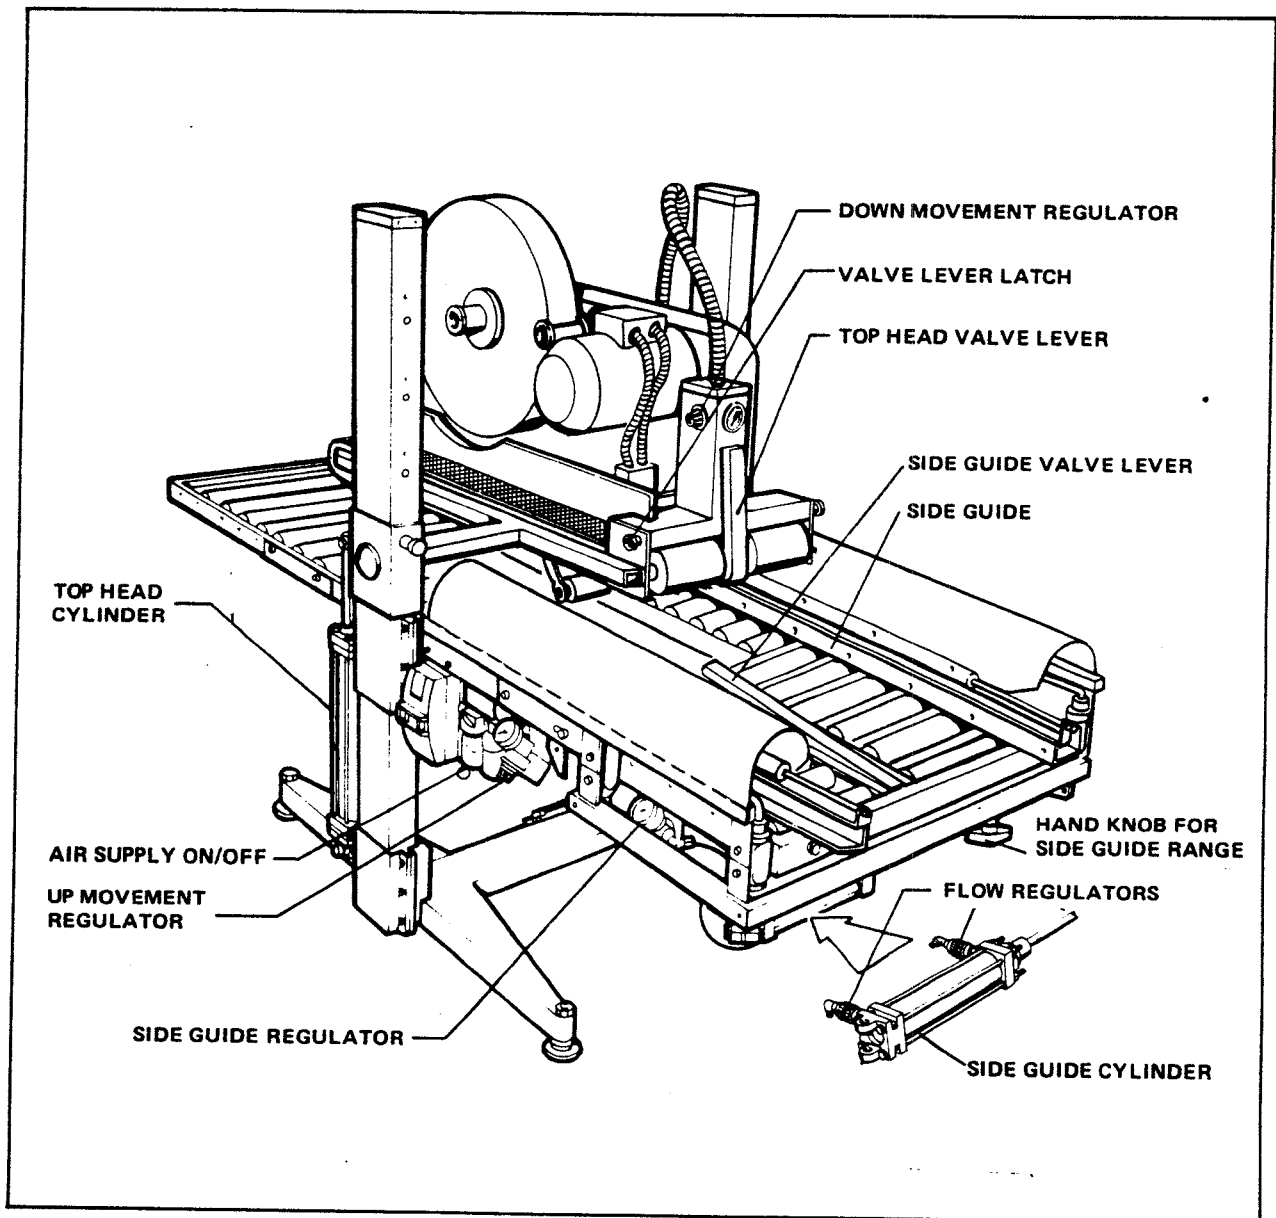

FIGURE 1 SET-UP INSTRUCTIONS - BOX SEALER COMPONENTS - LEFT FRONT VIEW
- 2) Air Cylinder Flow Regulator (Refer to Figure 1) - Flow regulators are located on the ports of the air cylinder that powers the side guides. These control the speed with which the side guides close and open. The regulator on the clevis end of the cylinder controls the closing speed and the regulator on the rod end of the cylinder controls the opening speed. The movement speed is decreased by screwing the regulator knurled collar towards the cylinders, increased by screwing the regulator knurled collar away from the cylinder.